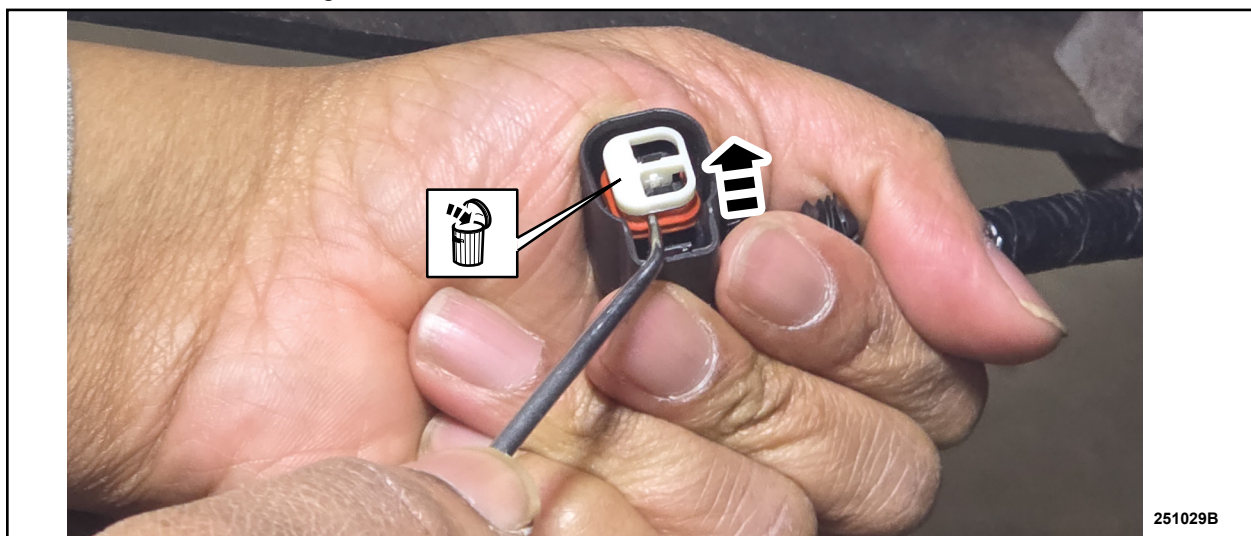

FIGURE 3
4. Using a pick tool or equivalent, remove and discard the terminal protector from inside the connector C4558 hardshell. See Figure 3.